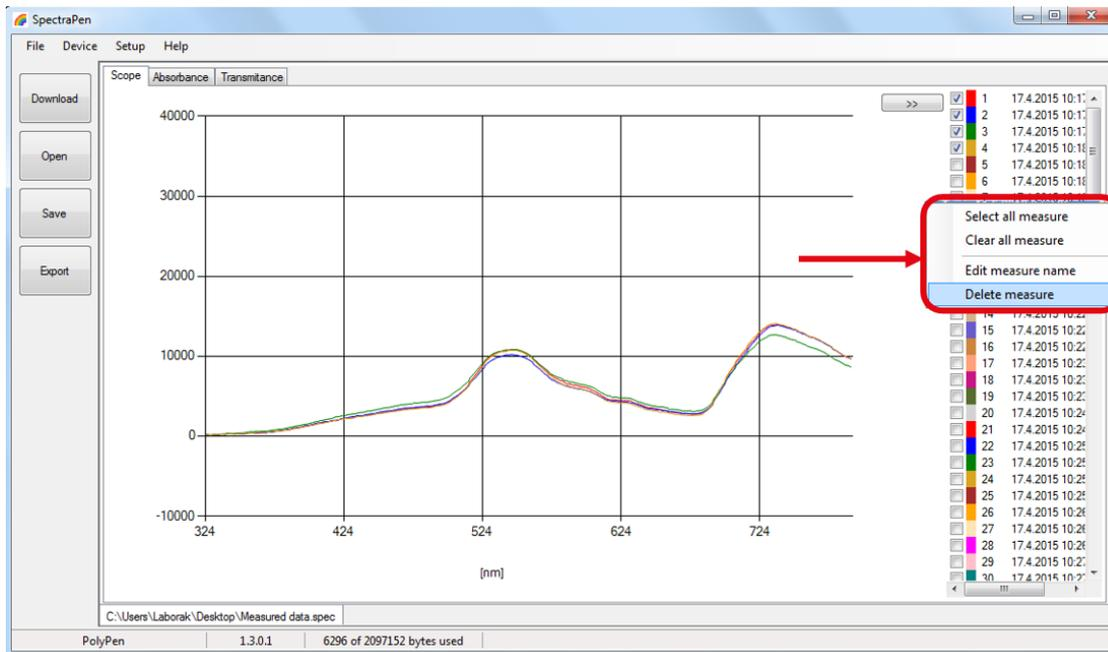

Fig. 28 Option for list of data.
7. Right click on list of measured data enables **edit data name**, **delete** selected measurement or **show and hide** all measured data in the graph– Select all measure and Clear all measure (Fig. 28).